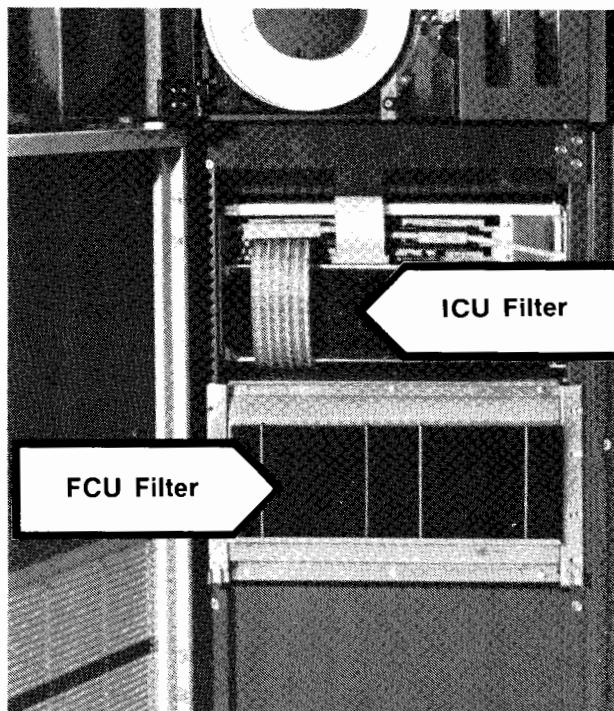

Figure 3-2. HP 7976A Filter Locations
- c. Clean all subsystem filters (figure 3-2).